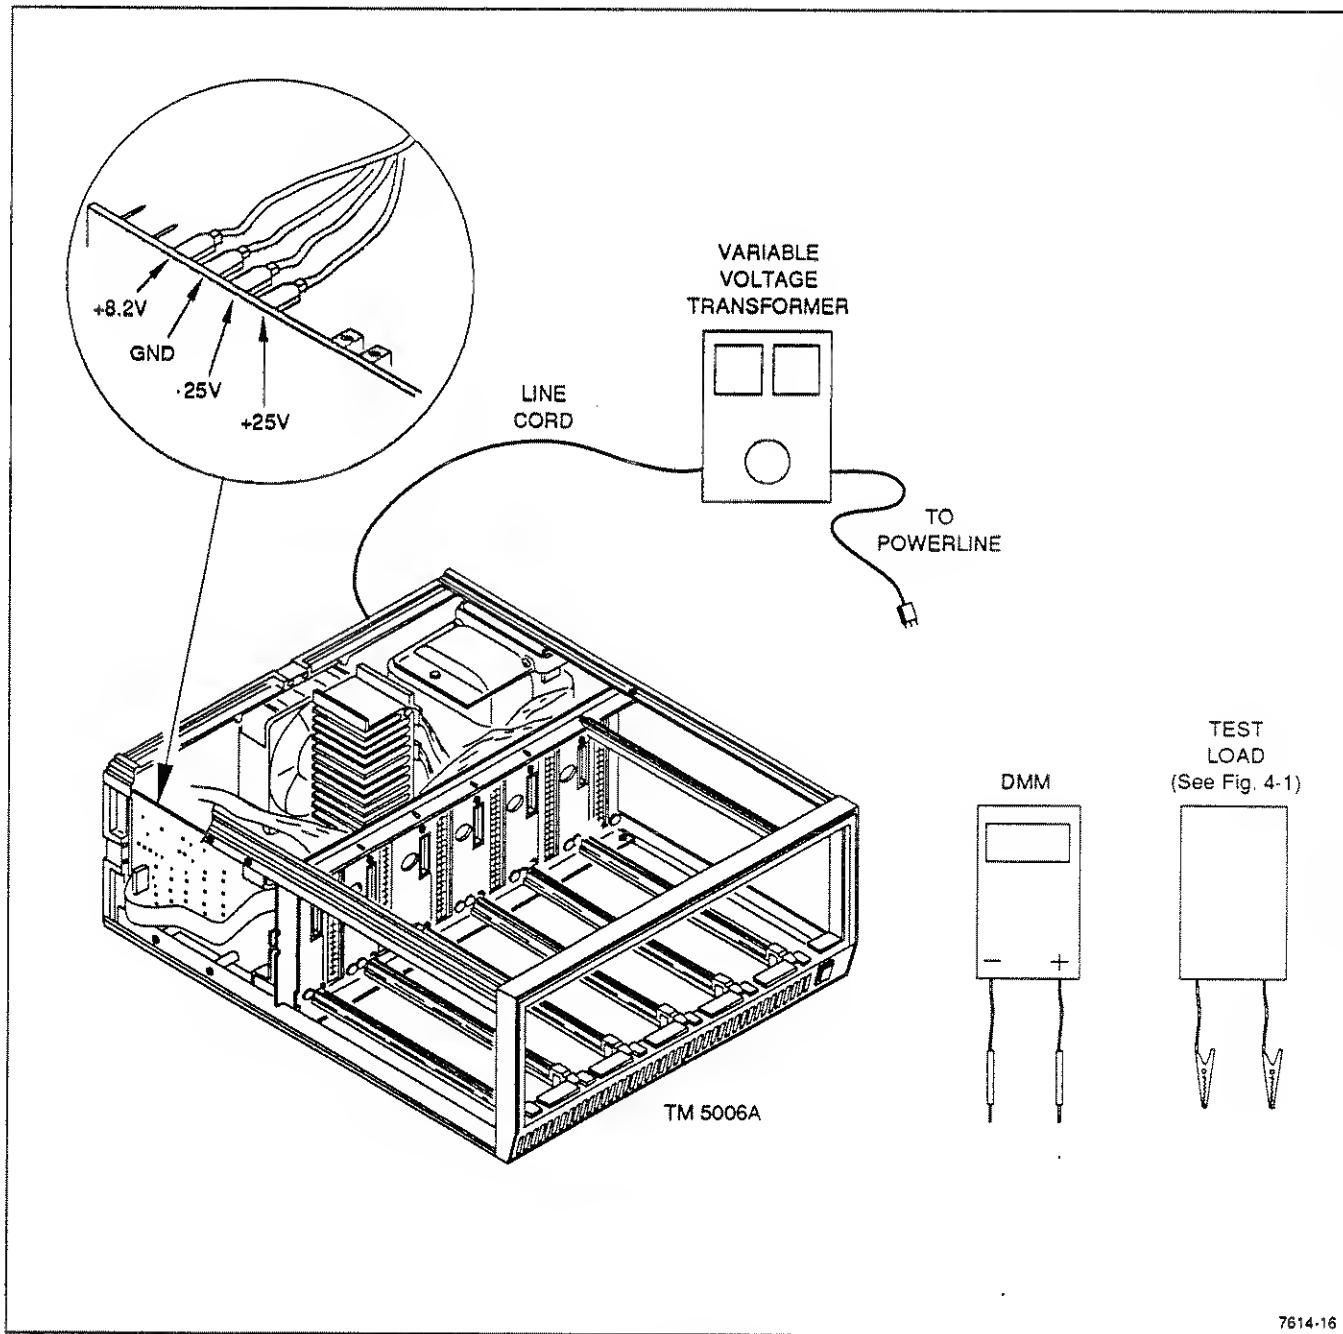

Fig. 4-2. Performance check setup.
Remove the top cover to gain access to the supply buses. Figure 4-2 shows the test point locations.
- a. Connect the test equipment as shown in Figure 4-2. Set the Variable Voltage Transformer line voltage for 10% below the nominal line voltage. (Nominal line voltage is the line voltage the instrument is set to operate on.)
- b. Connect a 4 Ω test load and the DMM between the +25 V supply and ground terminals shown in Figure 4-2.
- a. Connect the test equipment as shown in Figure 4-2. Set the Variable Voltage Transformer line voltage for 10% below the nominal line voltage.
- b. Connect a 4 Ω test load and the DMM between the -25 V supply and ground terminals shown in Figure 4-2.
- f. Connect a 0.46 Ω test load and the DMM between the +8.2 V supply and ground terminals shown in Figure 4-2.
- b. Connect a $0.46\ \Omega$ test load and the DMM between the +8.2 V supply and ground terminals shown in Figure 4-2.